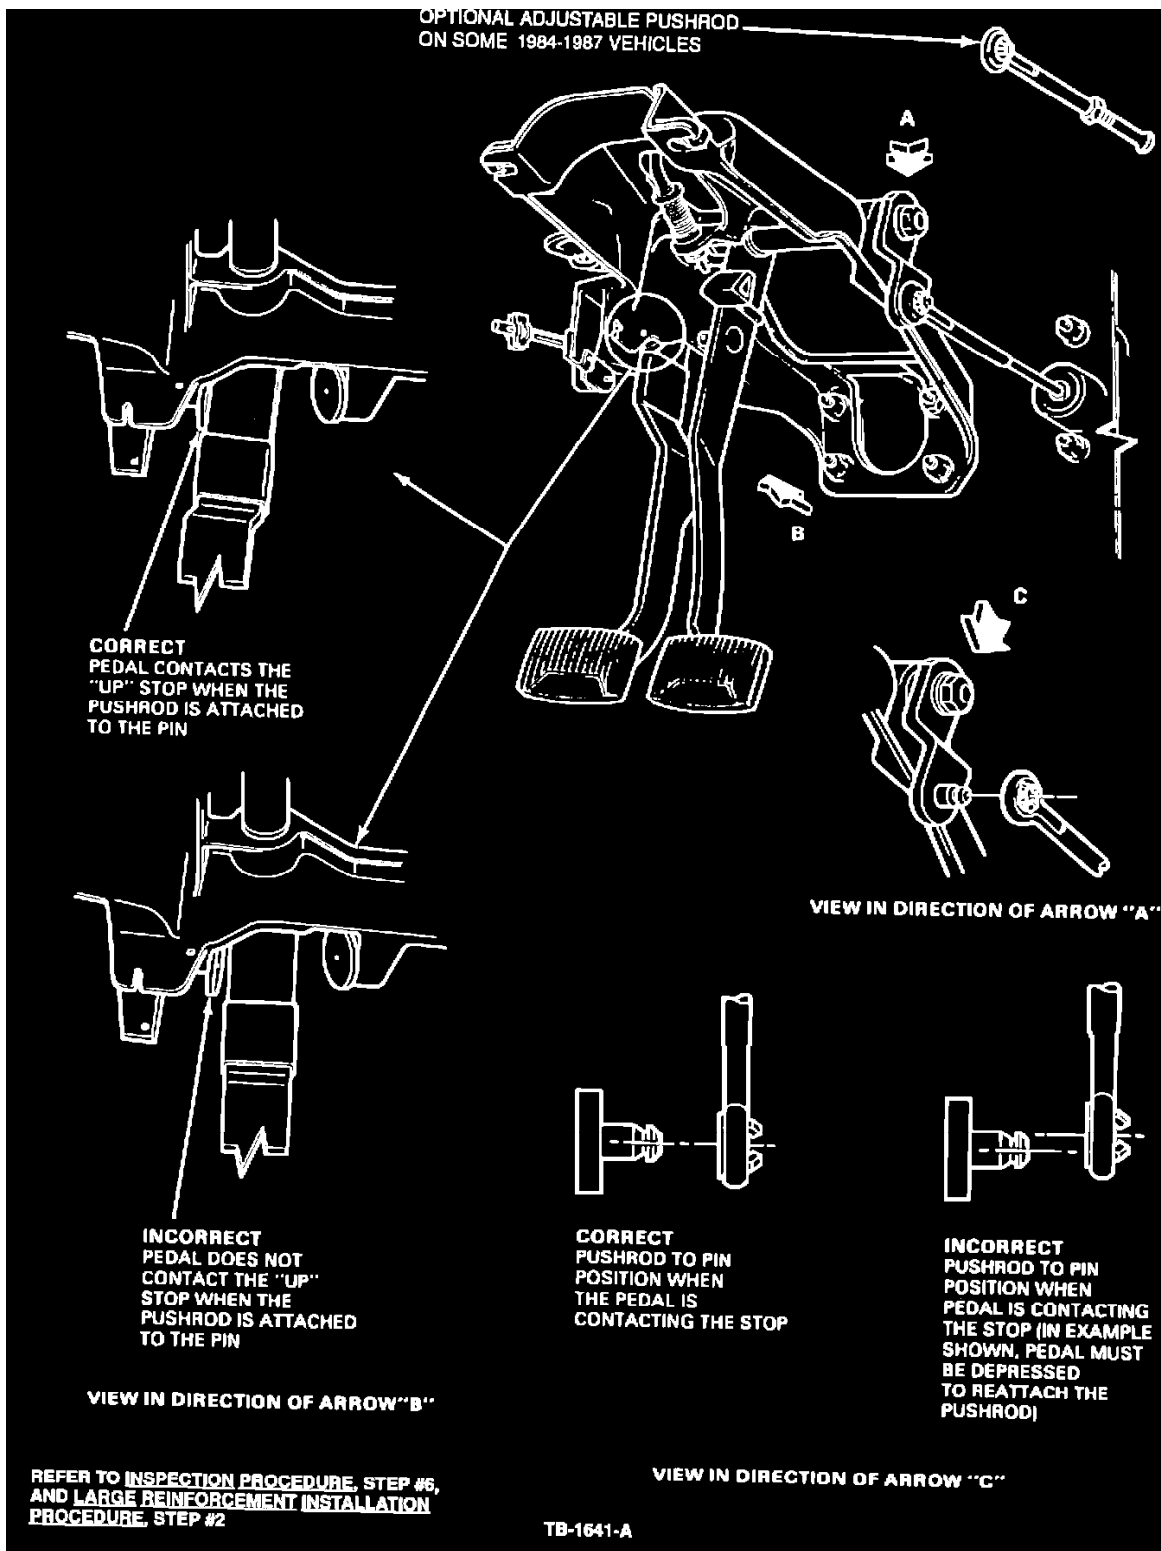

Figure 1
2. Disconnect the clutch master cylinder pushrod from the lever, removing the pushrod retention clip on older models, Figure 1.
4. Remove the steering column and dash toe plate by removing the five (5) fasteners.